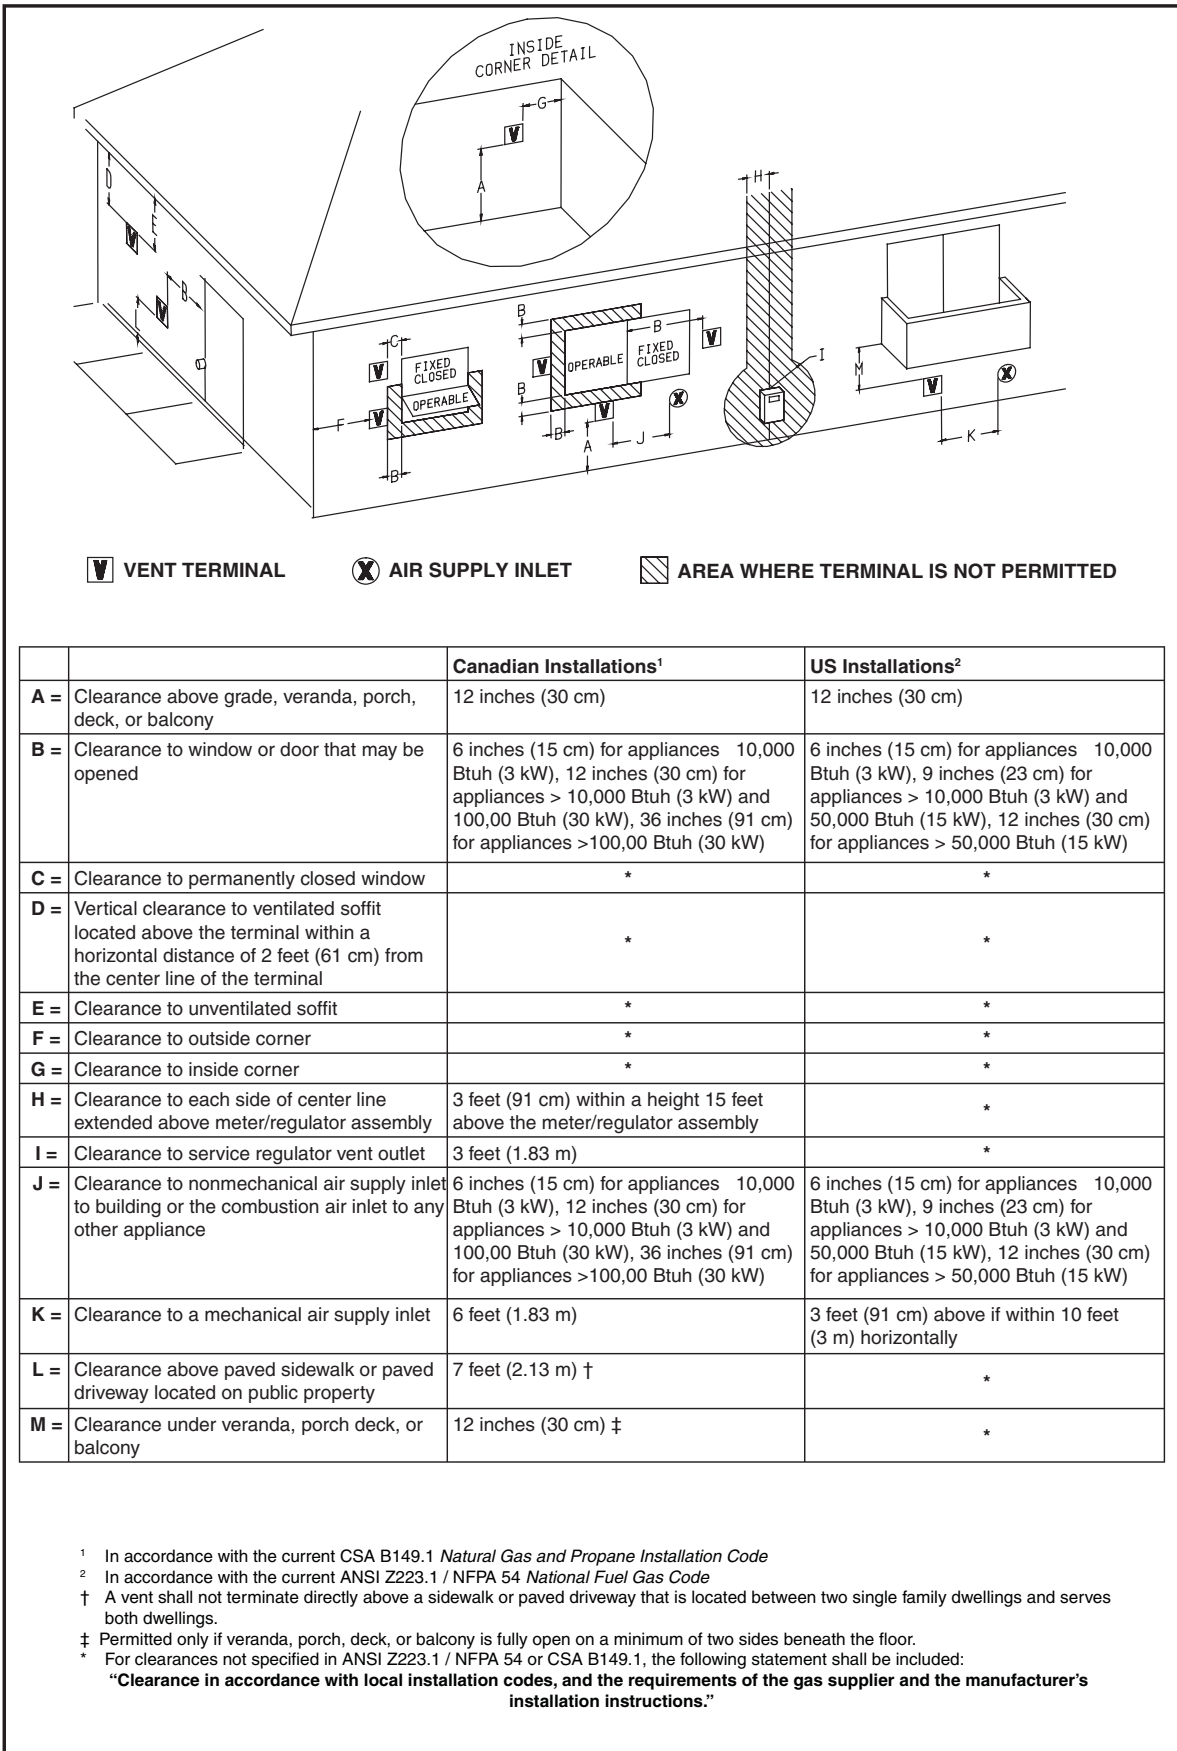

Figure 19. Vent Termination Clearances for Direct Vent Furnaces
Vent and combustion air intake terminations must be as shown in Figure 19 and 20. Vent termination clearances shall be consistent with the National Fuel Gas Code, ANSI 2223.1/NFPA 54 and/or the CSA B149.1, Natural Gas and Propane Installation Code.
Ensure that the combustion air vent and the exhaust vent are configured as shown in Figure 19 and 20. Improper vent termination can cause recirculation of the flue gases. This may result in furnace vibration. In severe cases, the furnace will cycle due to the intermittent contact between the flame and the flame sensor. If you note oscillations occurring, check the vent configuration. Make sure that the exhaust vent does not have a 90 degree termination.
Vent and combustion air intake terminations must be located to ensure proper furnace operation and to conform to applicable codes. Figure 19 and 20 illustrates necessary distances from the vent termination to windows and building air intakes. **In Canada, the Canadian Fuel Gas Code takes precedence over these instructions. Specifically, all minimum distance requirements with respect to termination of the vent piping listed below (items 1 through 8).**